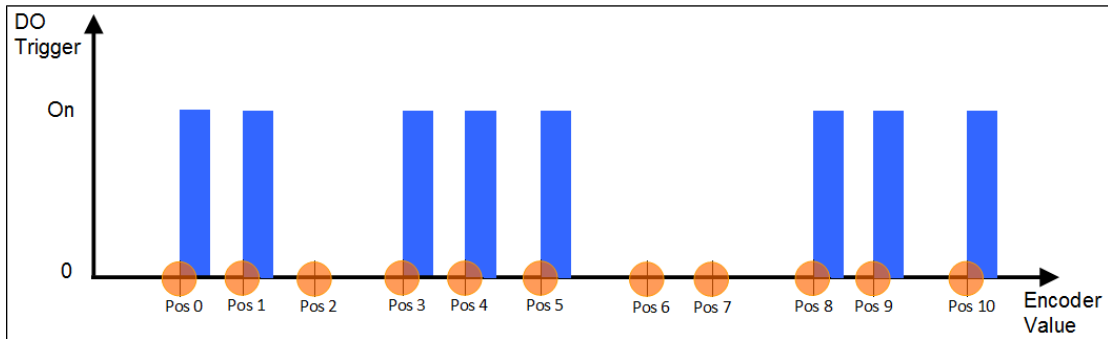

Figure 13: Position array compare
3. Position compare array (Figure 13): A sequential compare which triggers a position compare output according to a set number of positions stored in the hardware registers. Up to 200 compare values are supported for each encoder channel. Each individual position in the array can be set whether to trigger an output when its position has been reached.